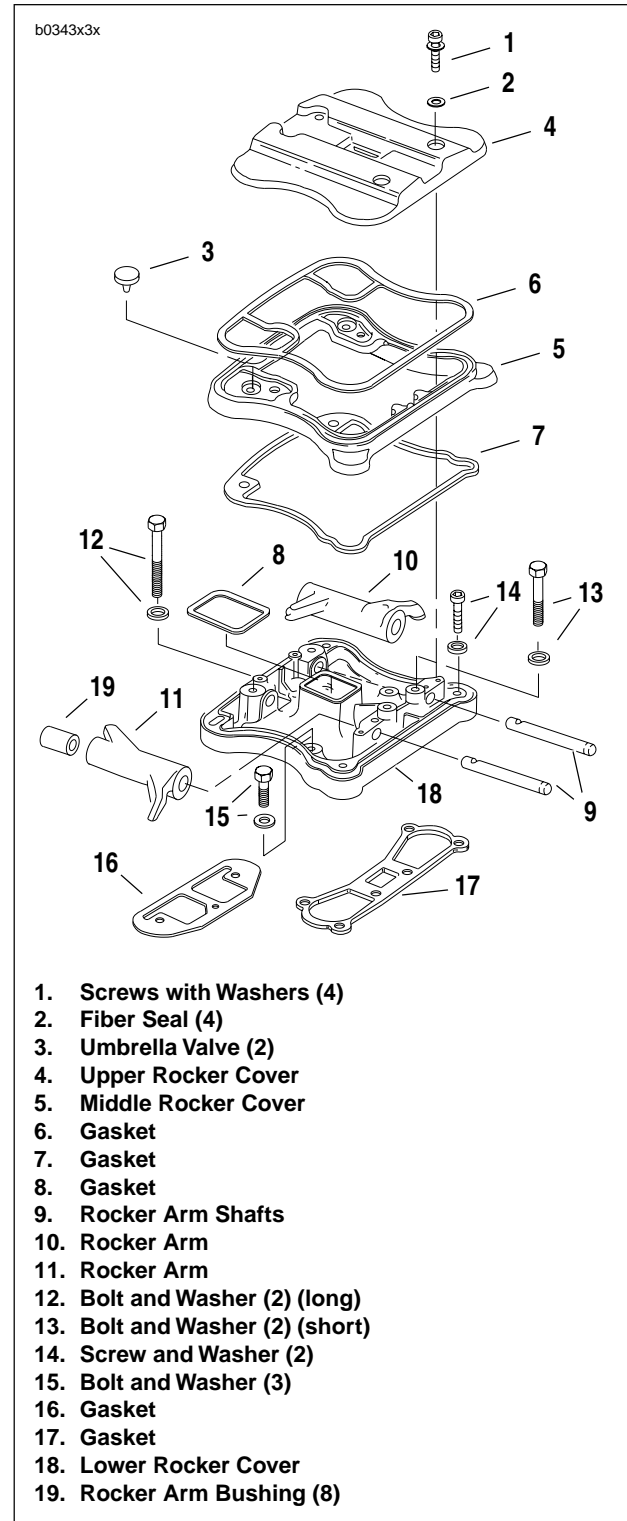

Figure 3-5. Rocker Arm Cover
1. See Figure 3-5. Remove screws with washers (1) and fiber seals (2). Discard fiber seals.
8. See Figure 3-5. Remove rocker arms (10, 11); mark them for reassembly in their original locations.